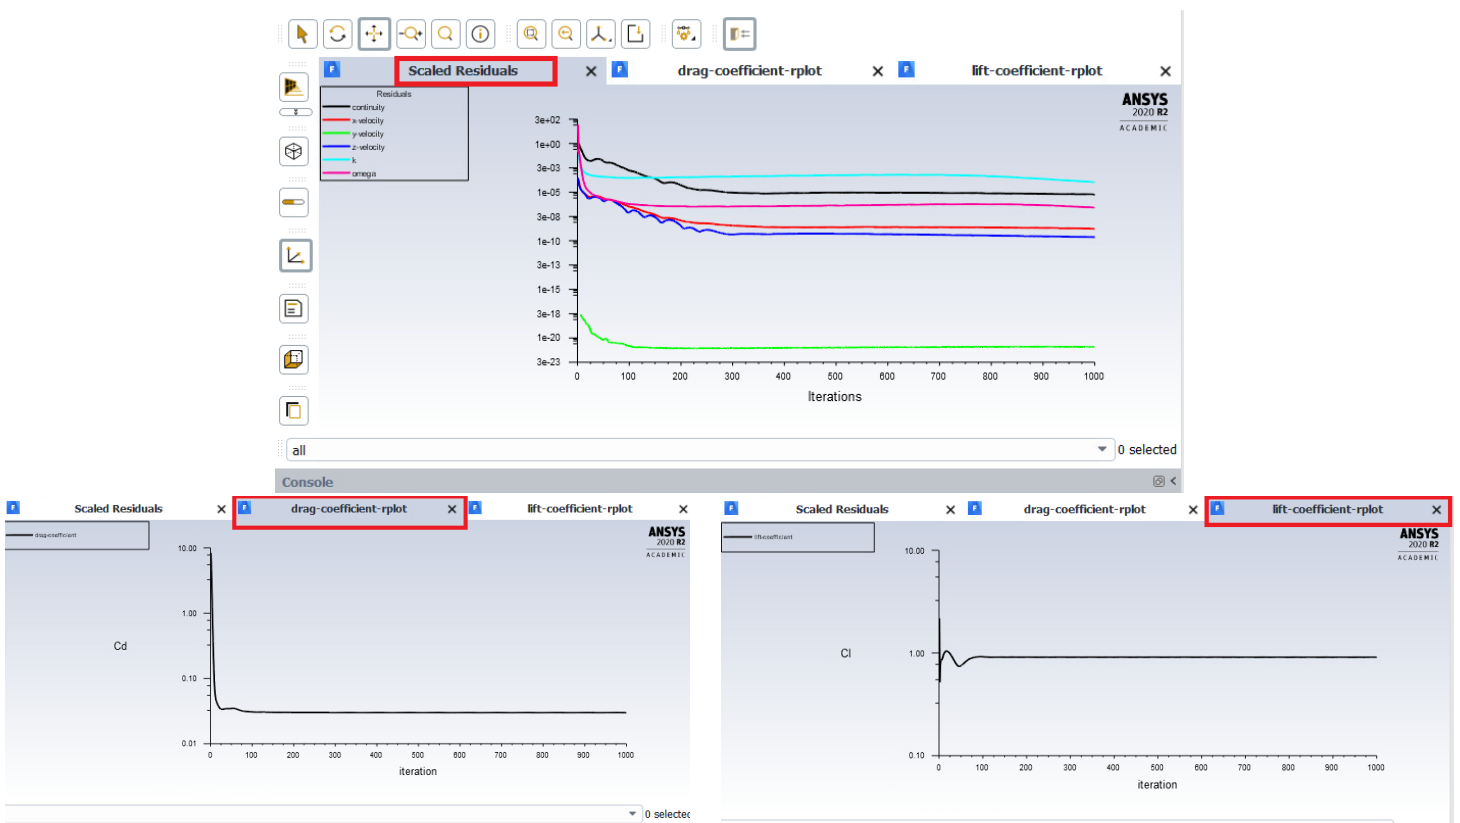

Figure 21. Plot of the (Top) residuals, (left) drag coefficient, and (right) lift coefficient for 1000 iterations of the steady-state solver.
3.8.4. Toggle between the “Console View” and the “Graphics View”, by selecting the **Graphics** tab at the *bottom* of the Graphics Pane. Click individually on the tabs at the *top* of the Graphics Pane labeled “Scaled Residuals”, “drag-coefficient-rplot”, and “lift-coefficient-rplot”. You should see plots similar to the ones shown in Figure 21, though the pattern and values might be different. And, your plots should only show 500 iterations or less (if the solver converges before reaching 500 iterations).